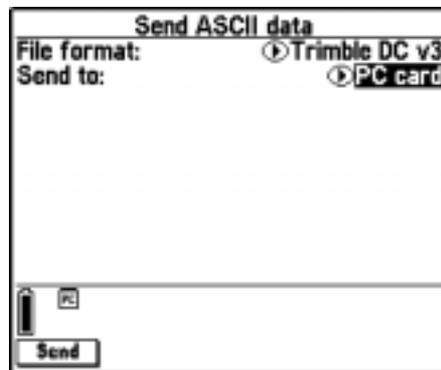

Figure 9.3 Send ASCII Data (to PC card) screen
1. Select *Files /Import/Export / Send ASCII data*. Figure 9.3 shows the screen that appears.